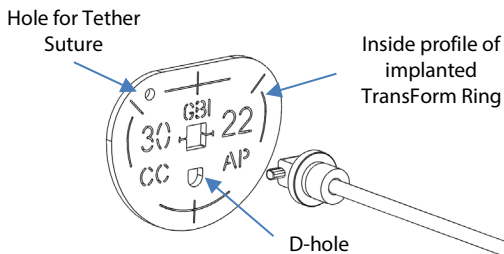

Figure 2: Flexible TFRS Sizer and GRH Handle
posterior markers. Sizing for commissure-commissure (CC) and anteroposterior (AP) are designated on each sizer. Blue arrows indicate significant features in Figure 2.